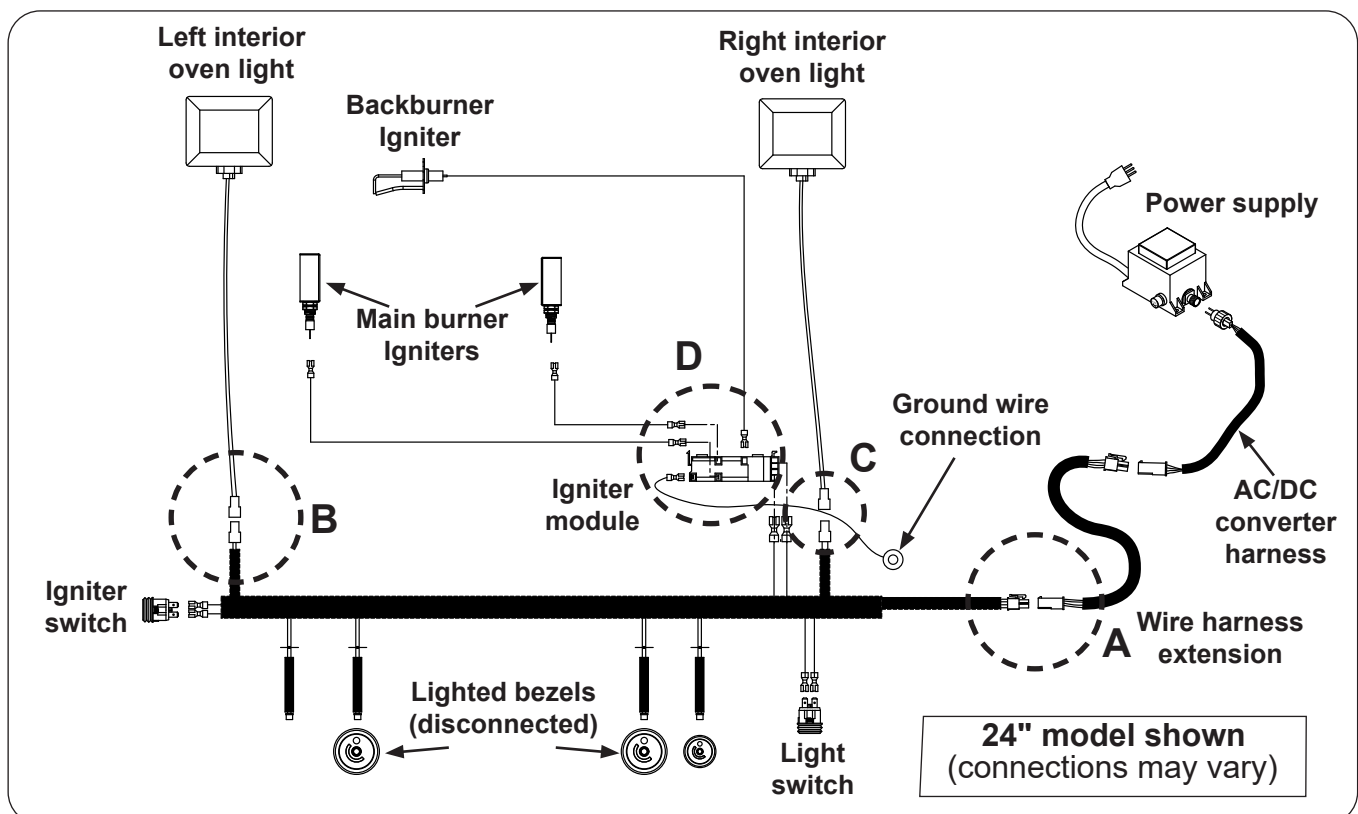

Fig. 43-2 - Wire diagram
2. Disconnect the main wire harness connections (A), the left light connection (B), the right light connection (C), and the igniter wires (D). It is recommended to temporarily label the wires for reference when reconnecting. See Fig. 43-2. When disconnecting, be sure to pull from the connectors, and not the wires.